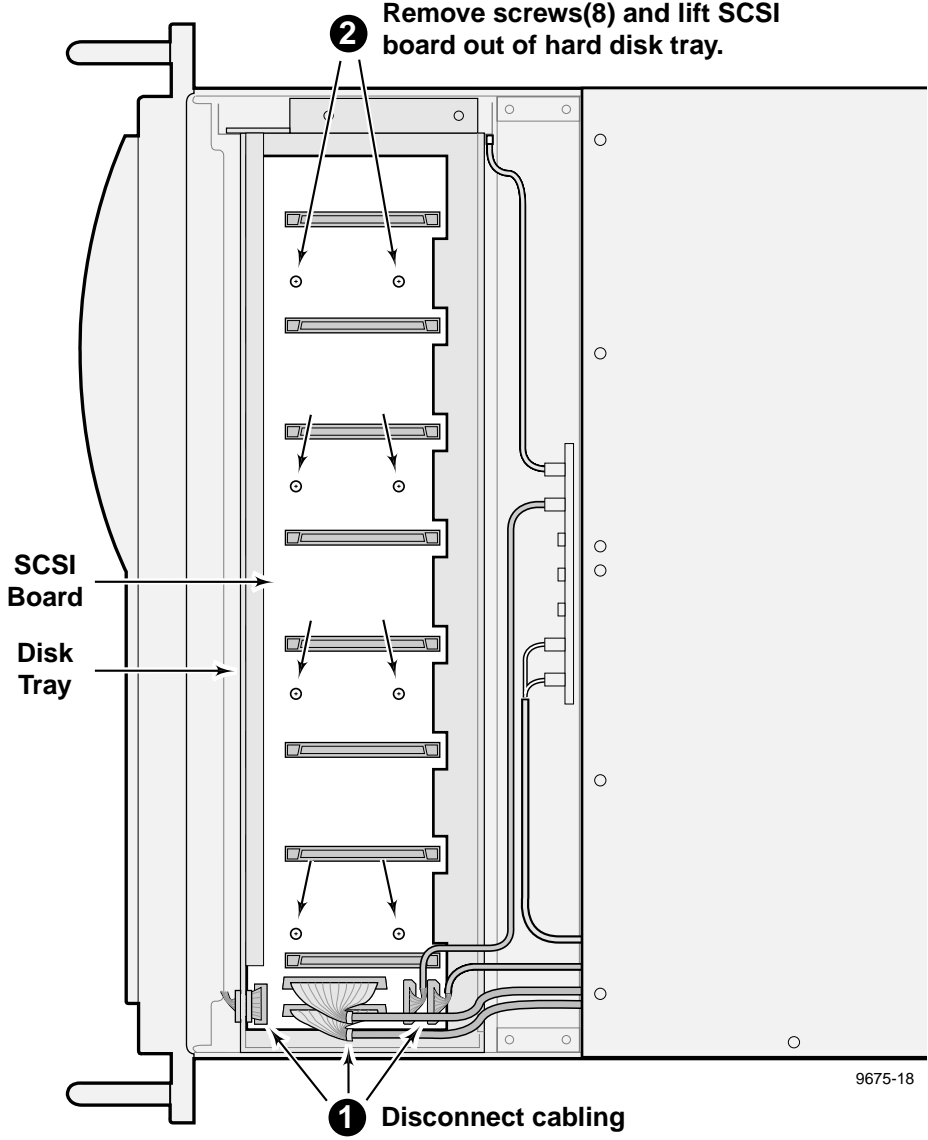

Figure 6-10. Removal of the SCSI Backplane
2. Disconnect all cables from the SCSI Backplane (1 in Figure 6-10).
3. Use the Torx tool with the T15 tip to remove the screws which secure the SCSI Backplane to the stand-offs on the disk drive tray (2 in Figure 6-10).
3. Connect all cables previously removed to the SCSI Backplane (Figure 6-10).
3. Disconnect all cables from the SCSI Backplane (Figure 6-10, page 6-17).
5. Reconnect all cables to the SCSI Backplane (Figure 6-10).